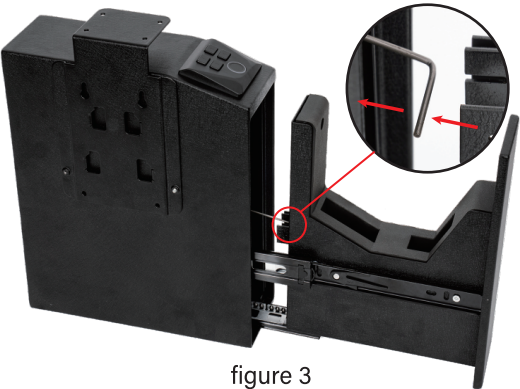

figure 3
Step 3: Gently press down on the iron wire and pull it outward to separate the main body of the gun box from the shell of the safe. (Figure 3)